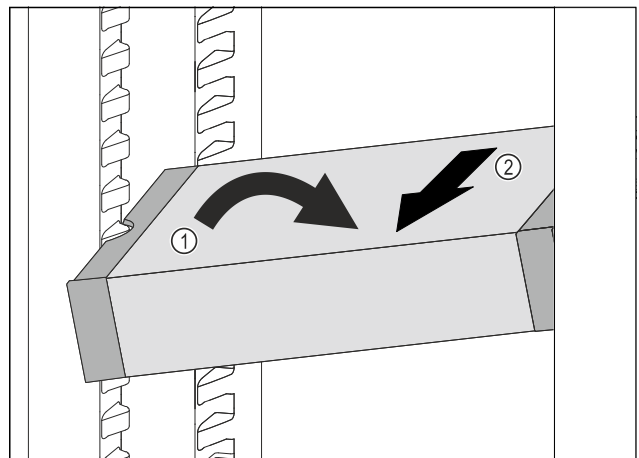

Fig. 110
- ▶ Set VarioSafe in refrigerator compartment at an angle. Fig. 110 (1)
- ▶ Take VarioSafe out to the front. Fig. 110 (2)